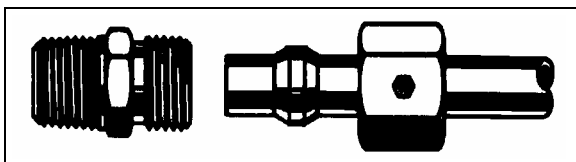

FIGURE 46: HOSE FITTING 12054
**Compression:** Tighten nut by hand (Fig. 46). From that point, tighten using a wrench the number of turns indicated in the chart hereafter.